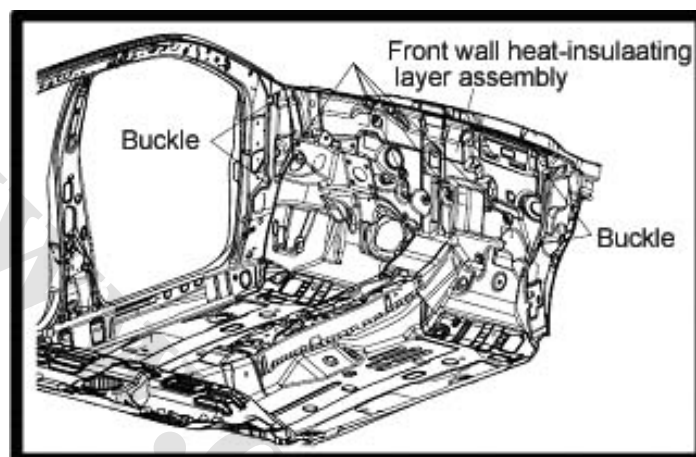

Fig. 7-30
(1) First install five buckles on the buckle installing holes of the heat-insulating pad of front wall, open the upper mouth of the pad and hang it on the beam under the windshield (see Fig. 7-30), and after gluing its surface with the dash panel, place the five buckles into the corresponding bolts on the dash panel.